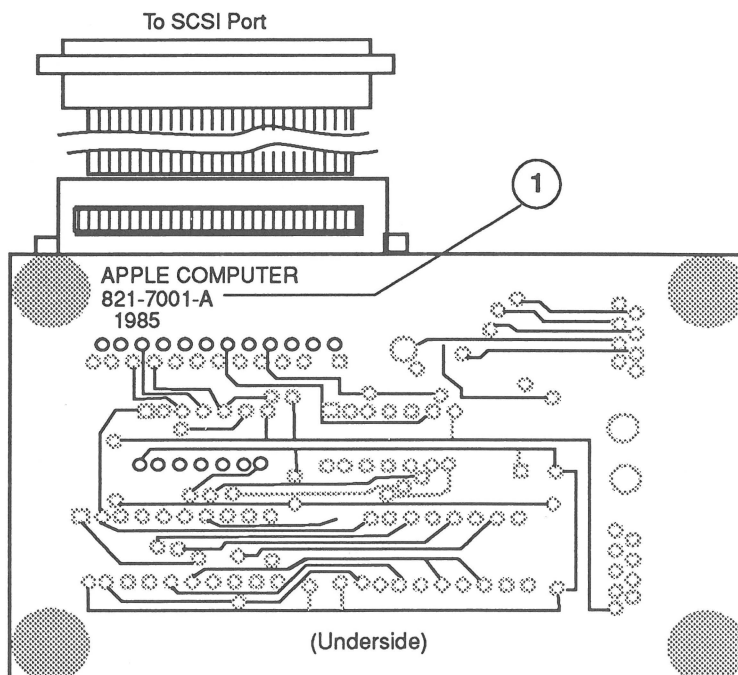

Figure 4-2 Identifying a Newer Card
To determine whether you have a newer card, which will not need to be jumpered, look at the back of the card. If the jumper is included in the artwork, there will be an **A** instead of double zeros (00) at the end of the part number, which is located under the words "APPLE COMPUTER" (**Figure 4-2, #1**). **These newer cards do not have to be jumpered.**